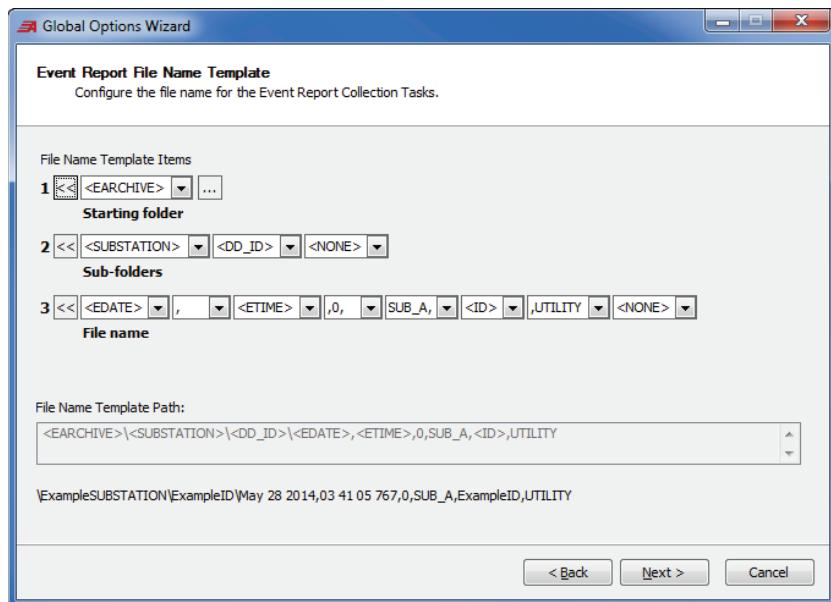

Figure 48 Event Report File Name
Step 8. Select **Next** to open the **Event Report File Name Template** window, as shown in *Figure 48*.
Step 9. Set the **Starting folder** field to <EARCHIVE> and the **Sub-folders** fields to <SUBSTATION> and <DD_ID>, as shown in *Figure 48*.
Step 10. Set the **File name** field parameters as shown in *Figure 48*; these settings include the required file name contents of *Step 8*.